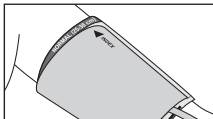

Fig.10
5. On the fixed cuff the sign «INDEX» should point to the area «NORMAL (25-36 cm)». It means that the cuff is chosen correctly and fits the size of your upper arm. If the sign points to the area marked «◀|||» the cuff is too small and the readings will be higher. If the sign points to the area marked «|||▶» the cuff is too large and the readings will be lower (fig. 10).